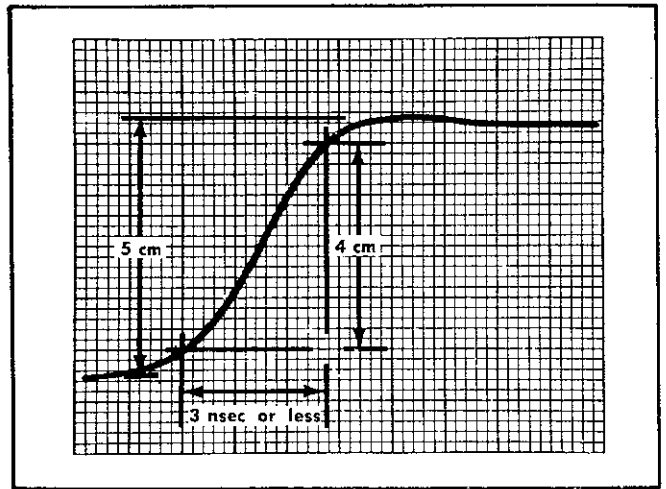

Fig. 5-3. Pulse Generator risetime check.
- g. Place the coupling capacitors (item 9 under "Equipment Required") on the Input connectors of the sampling oscilloscope.
- o. Check for a 10% to 90% risetime of 3 nsec or less (see Fig. 5-3).